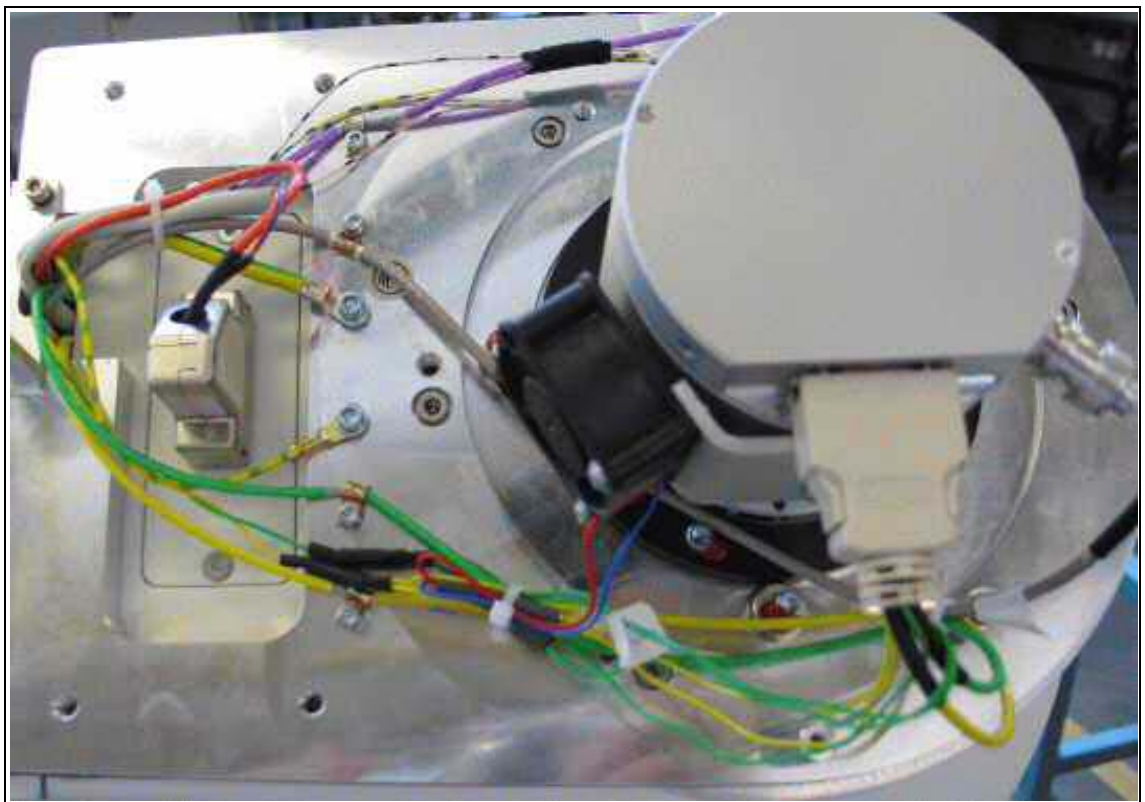

Fig. 20: I.I.\_connection
3. Remove the counterweights from the I. I. (already removed in \(Fig. 20 / p. 41\))
4. Disconnect all cables, cable ties and clips from the I.I. and the camera (Fig. 20 / p. 41).
3. Reinstall and connect all cables, cables ties and clips back to the I. I. and the camera (Fig. 20 / p. 41).